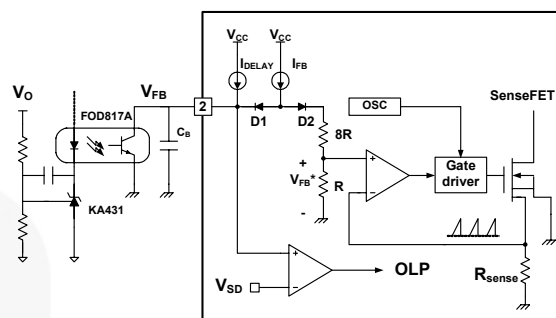

Figure 16. Pulse Width Modulation (PWM) Circuit
2. Feedback Control: FSQ500N employs current-mode control, as shown in Figure 16. An opto-coupler (such as the FOD817A) and shunt regulator (such as the KA431) are typically used to implement the feedback network. Comparing the feedback voltage with the voltage across the R_{sense} resistor makes it possible to control the switching duty cycle. When the reference pin voltage of the regulator exceeds the internal reference voltage of 2.5V, the opto-coupler LED current increases, pulling down the feedback voltage and reducing the duty cycle. This typically occurs when the line input voltage increases or the output load current decreases.
2.1 Pulse-by-Pulse Current Limit: Because current-mode control is employed, the peak current through the senseFET is limited by the non-inverting input of PWM comparator (V_{FB}^*), as shown in Figure 16. Assuming that 225 μ A current source flows only through the internal resistor ($8R + R = 12k\Omega$), the cathode voltage of diode D2 is about 2.7V. Since D1 is blocked when the feedback voltage (V_{FB}) exceeds 2.7V, the maximum voltage of the cathode of D2 is clamped at this voltage, clamping V_{FB}^* . Therefore, the peak value of the current through the senseFET is limited.